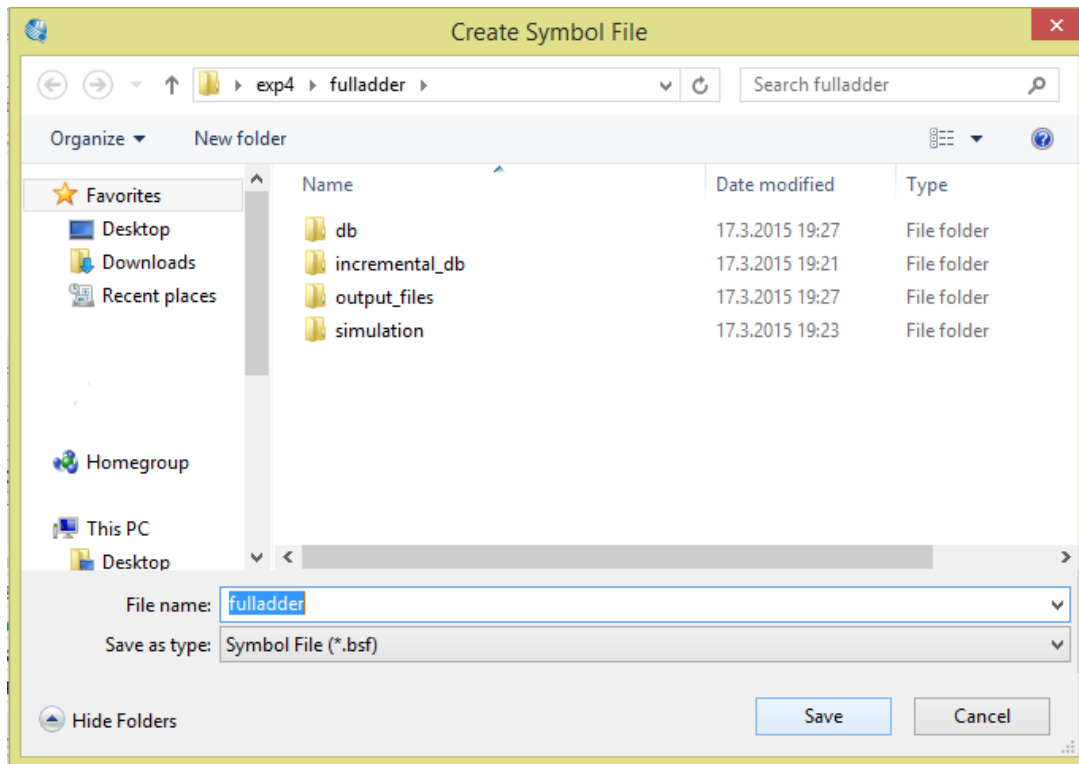

Figure 4.4 Saving newly created symbol
9. This symbol should have the same file name as the design file (fulladder) but will have a *.bsf* file extension as it's shown on Figure 4.4. It will be saved in the same project folder. Click **Save**. Click **OK**.